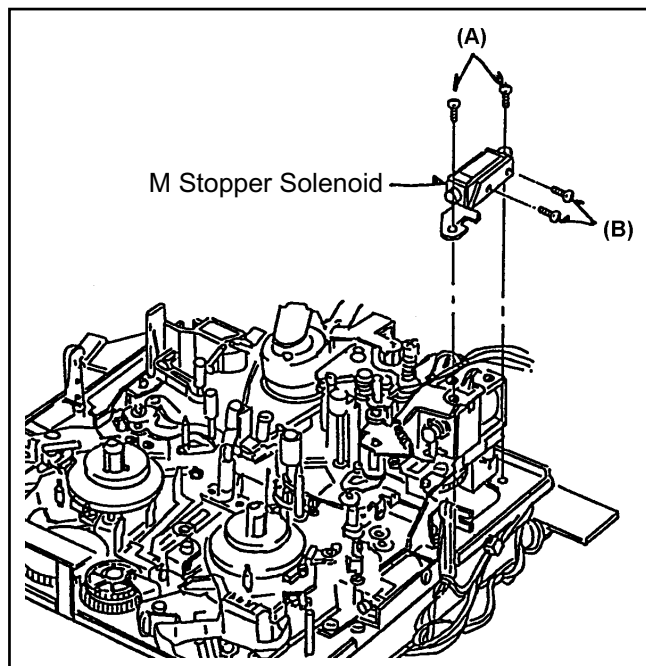

Figure 2-24-1
4. Unscrew the 4 screws (A) and (B) as shown in figure 2-24-1, and remove the M Stopper Solenoid.